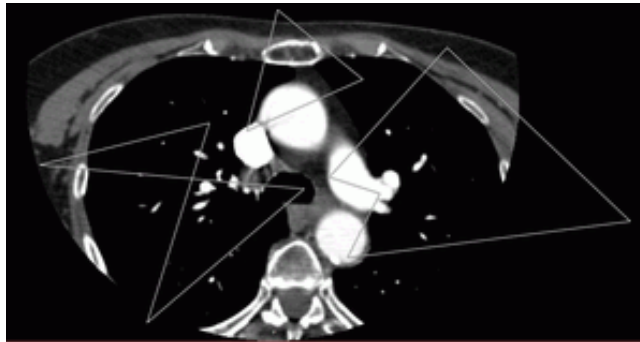

Figure 2.90: Polygon labels
6. Double-click the mouse to create the last point. The polygon is complete (Fig. 2.90).